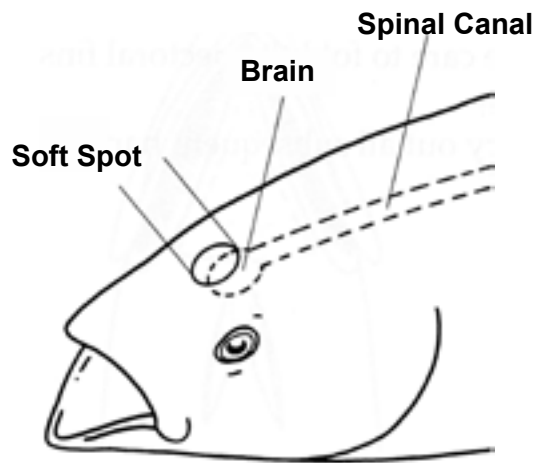

Fig. 11
- Locate the soft spot (Fig 11) by running your thumb over the top of the head.